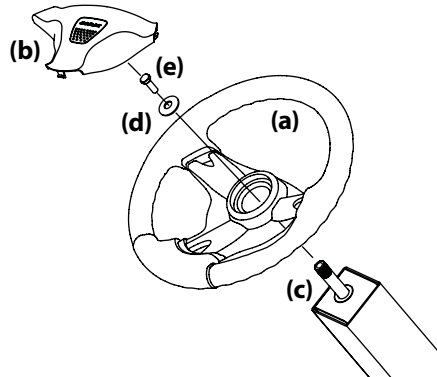

Figure 2-9
1. Remove the hardware for attaching the steering wheel (a) from beneath the steering wheel cover (b). Carefully pry off the steering wheel cover (b) to remove the hardware. See Figure 2-9.
2. With the wheels of the tractor pointing straight forward, place the steering wheel (a) over the steering shaft (c). See Figure 2-9.
3. Place the belleville washer (d) over the steering wheel (a) and secure with the hex screw (e). See Figure 2-9.
4. Place the steering wheel cover (b) over the center of the steering wheel (a) and push downward until it "clicks" into place. See Figure 2-9.